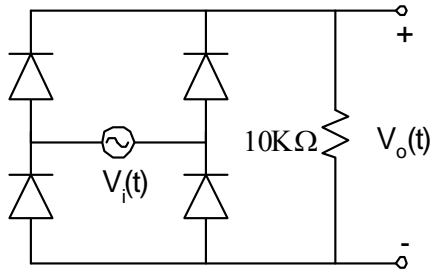

Fig 4. Full Wave Bridge Rectifier
*Full Wave Bridge Rectifier:* The circuit shown in Fig 4 is a full wave rectifier. As discussed in class, the resistor shown in the circuit conducts current during both the positive and negative cycles of the sinusoidal input. Note that the peak voltage drop across the resistor is  $V_m - 2V_D$ , where  $V_m$  is the maximum amplitude of the sinusoidal input and  $V_D$  is the voltage drop across the diode.
5. Construct the circuit of Fig 4 in PSpice. Run a transient simulation using a sinusoidal source with 5V amplitude and 1kHz frequency. Plot the voltage drop across the resistor and include it in your report. What is the peak voltage drop across the resistor? How does the circuit performance differ from the one in step 3?